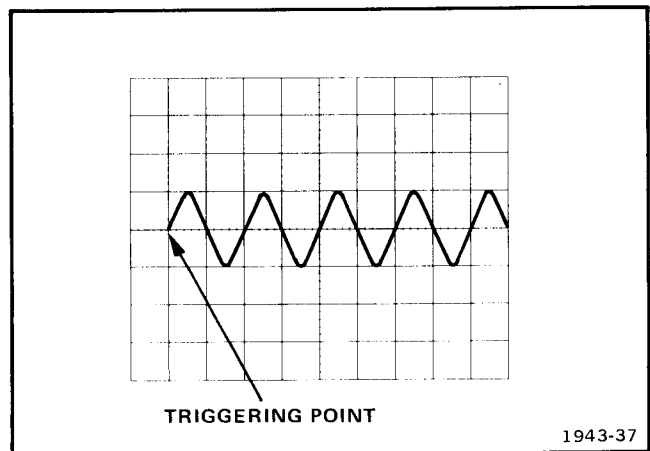

Fig. 6-13. Dc trigger level centering.
- d. Set B LEVEL control so display triggers at graticule center (see Fig. 6-13). Do not readjust B LEVEL control throughout remainder of step 3.